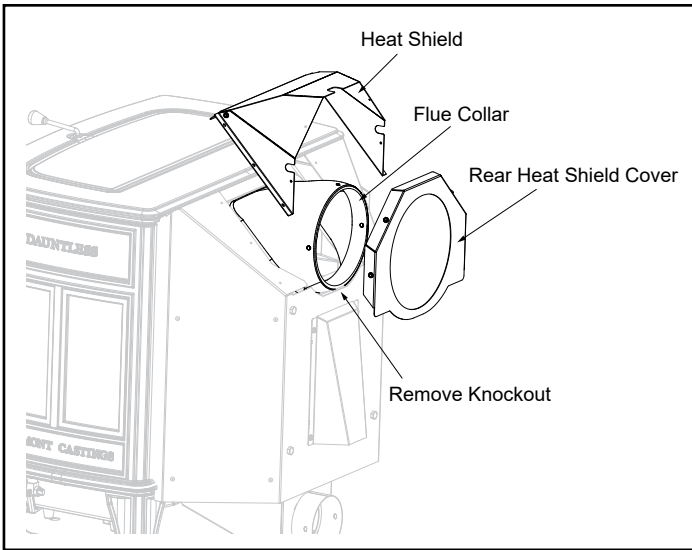

Figure 5.7
3. Turn flue collar to horizontal position. Inspect rope gasket located on the rear cast housing to ensure a leak free seal. Re-install flue collar, heat shield and heat shield cover, Figure 5.7.